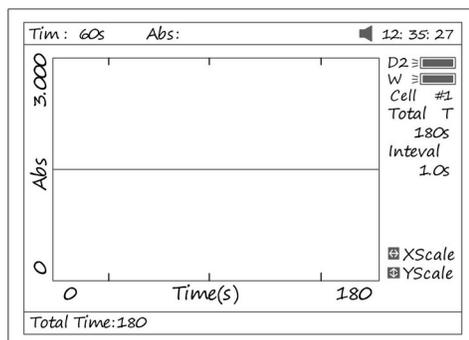

Fig 54
1. Press [F1] to set "Total Time", "Delay Time", "Time interval", and input the value by pressing the numeric keypad (Fig 54).